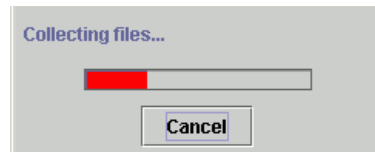

Figure 4-20 Data Collection Dialog Box
6. The *Data Collection* dialog box (Figure 4-20) displays with a progress bar that shows percent completion of the data collection. When the process reaches 100%, the *Cancel* button changes to a *Close* Button.